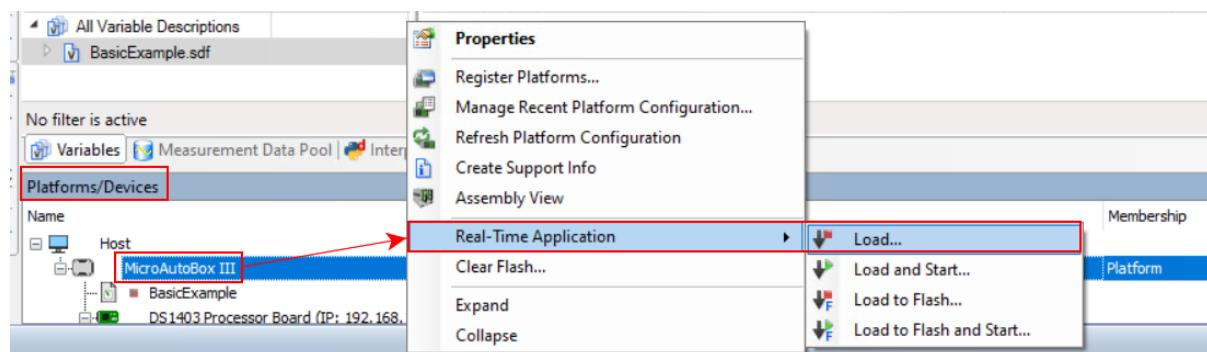
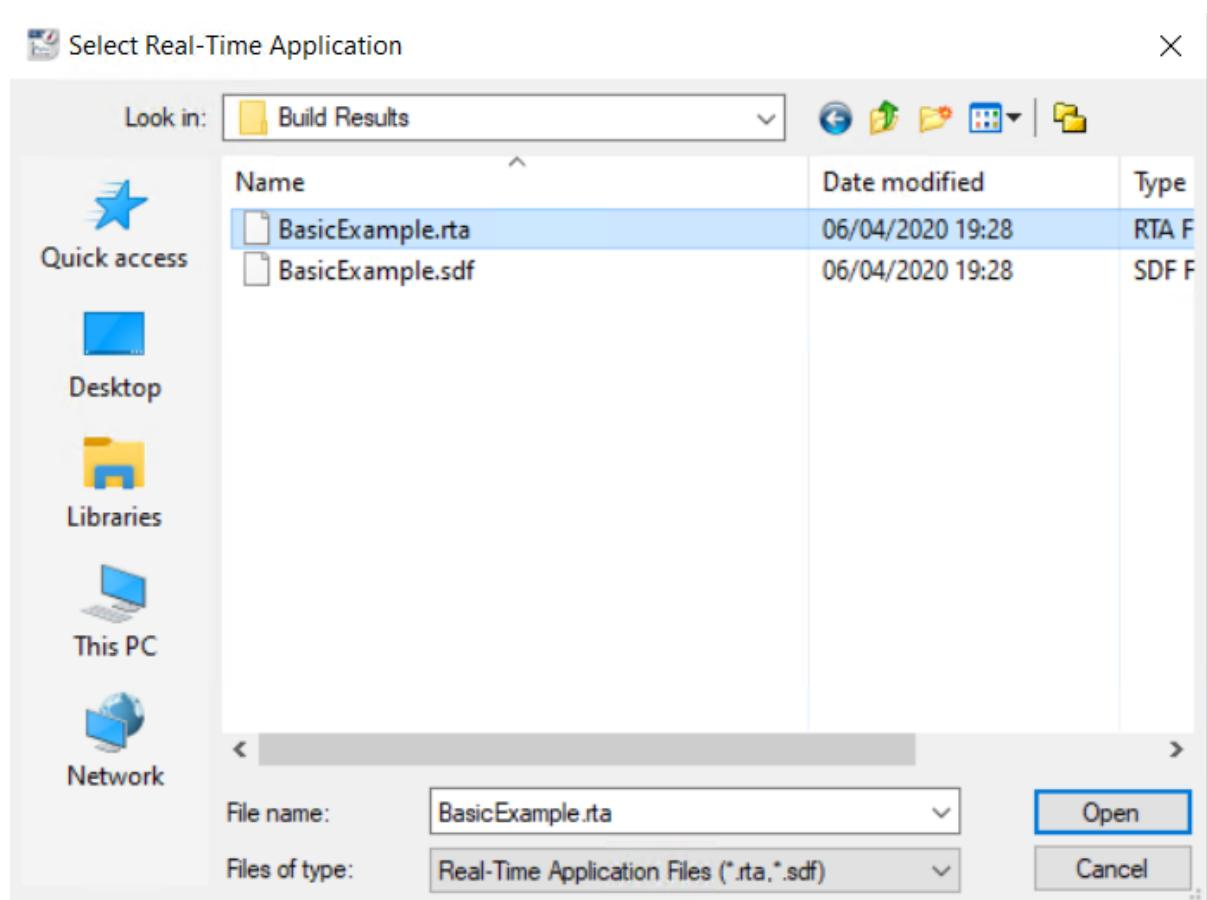

Figure 13.83: Load the application on the dSPACE MicroAutoBox III.
Figure 13.84: Select BasicExample.rta from the ConfigurationDesk project folder.
- 9) Application should have already been loaded from the building of ConfigurationDesk. Otherwise, select the Platforms/Devices tab. Right-Click on your platform and select Real-Time Application> Load. Choose the executable file BasicExample.rta (see Figure 13.83 and Figure 13.84).